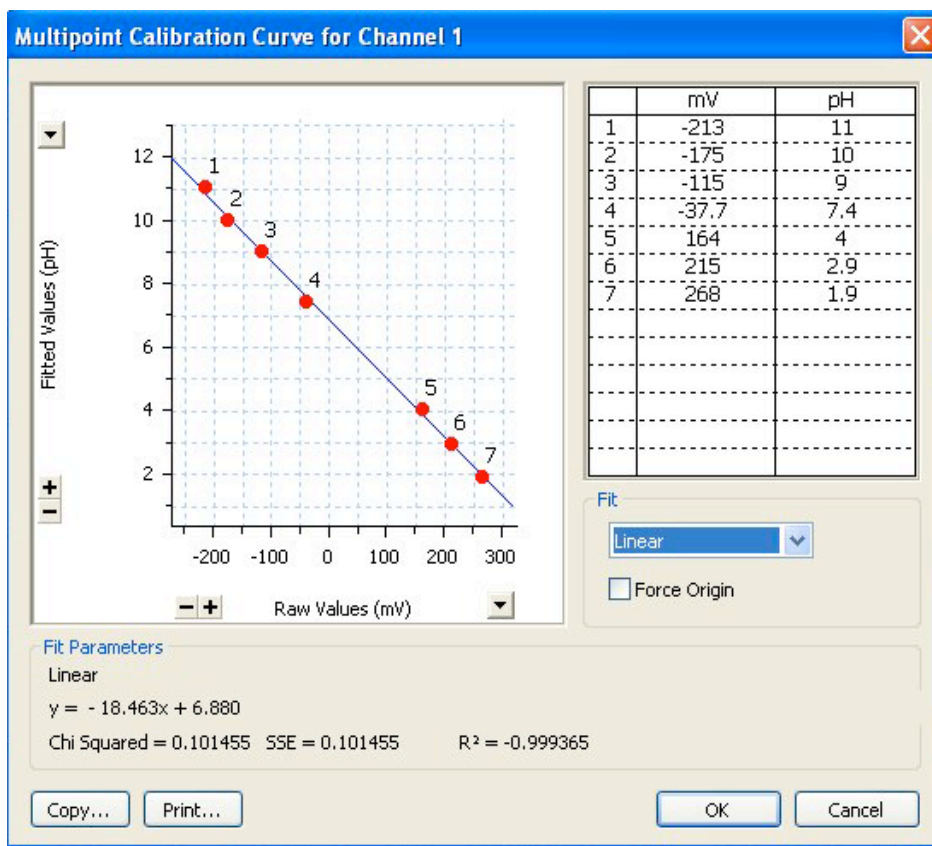

Figure 6.10 Multipoint Calibration fit dialog box
- 6.3.6** Click on Fit button to bring up the Fit dialog box (**Figure 6.10**).